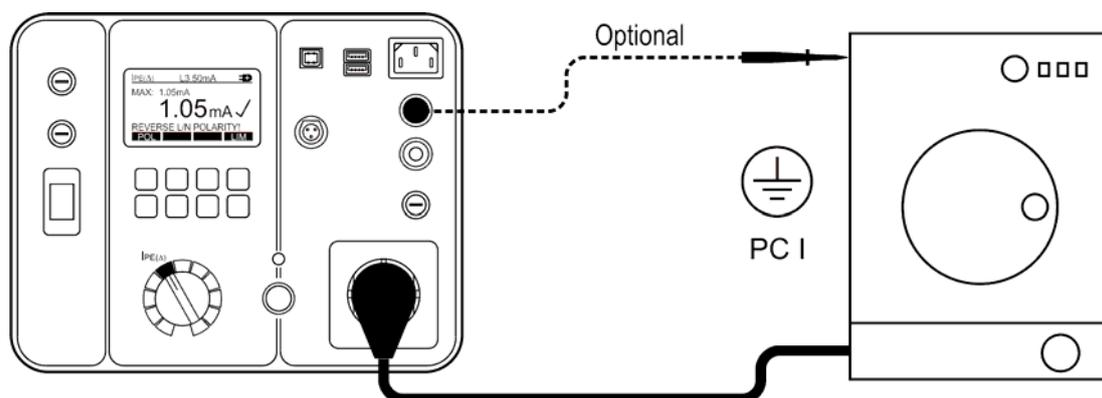

Figure 20: Earth leakage current test connections
- Connect the appliance according to the figure 20.